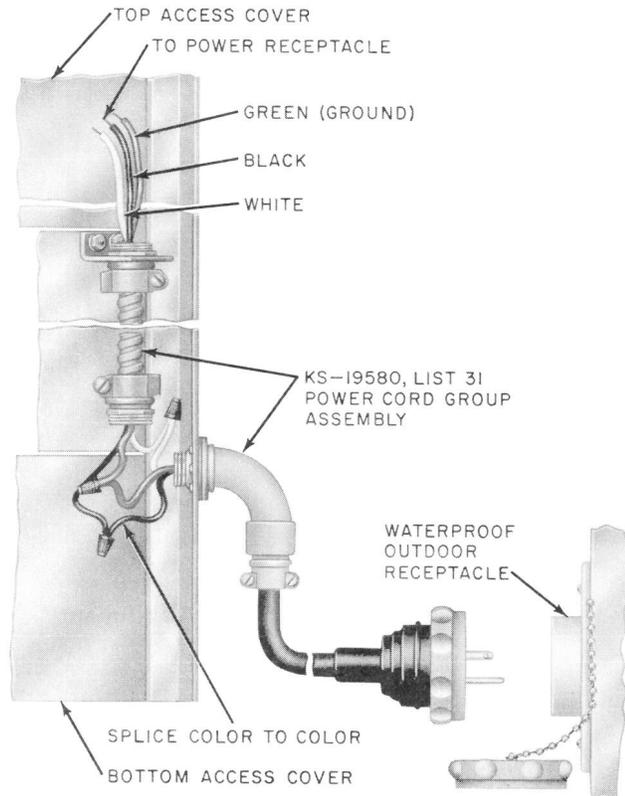

Fig. 20—KS-19580, List 31 Cable and Cord Group for Ground Level Entrance
3.13 For ground level entrance with plug-in features, use KS-19580, List 31 power cord group and install per Fig. 20.